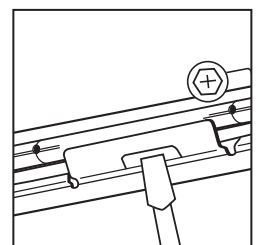

Figure 9
**Step 2.** Slide frame along bar hangers into desired location. Use locking screws or slot to secure (Fig. 9).